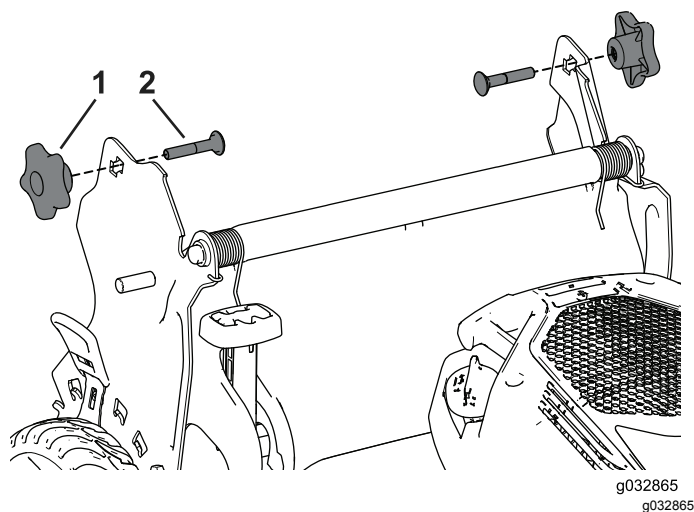

Figure 24
3. Insert the carriage bolt (with the bolt head toward the inside) through the handle bracket and the upper hole in the handle end. Ensure that the square edges of each carriage bolt fits into the upper or lower square hole in its related handle bracket (Figure 24).